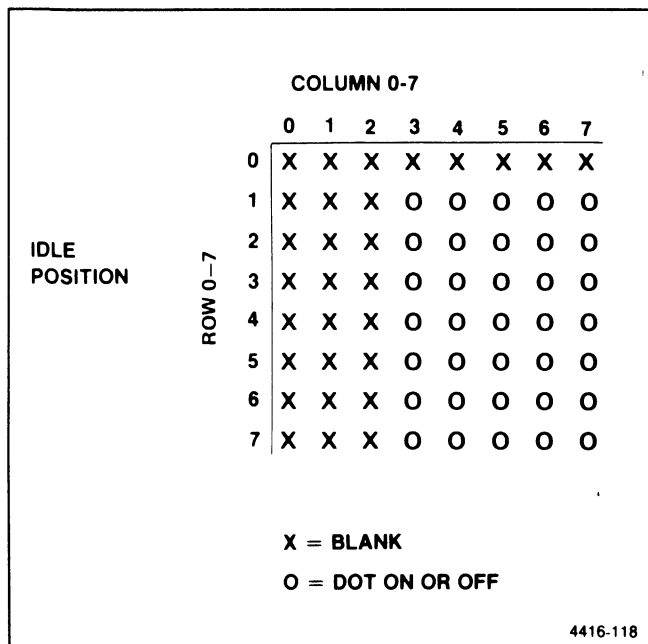

Figure 7-15. Character scan.
**Character Scan.** Although the 8678 character generator IC, U2048, is often used in raster scans, in this application it is used to write complete characters, as shown in Figure 7-15. A character is drawn as a pattern of dots in an 8 x 8 matrix where the top row and first three columns are blank. These blank dots allow for beam retrace and spacing. The idle position between characters is indicated on the figure.